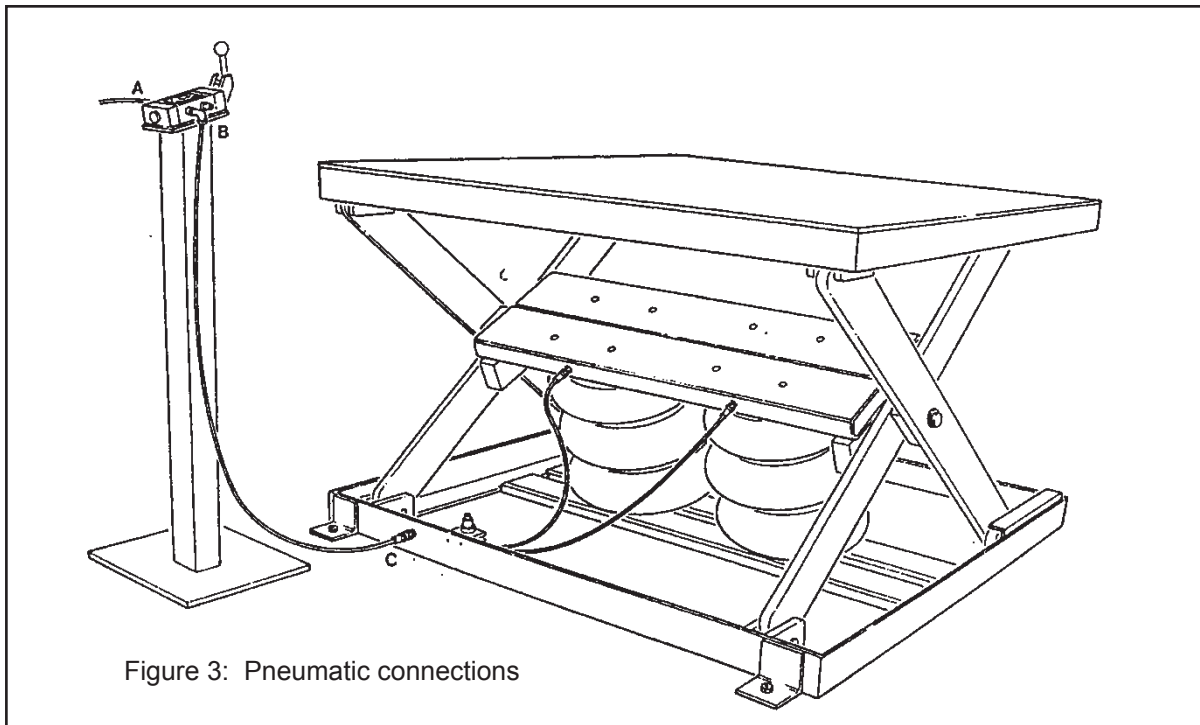

Figure 3: Pneumatic connections
3. The lift is shipped with the control line attached to the control valve (B) and detached from the lift base. Route the control line safely to the base and make the connection (C).
4. Connect the supply line to the open port of the control valve (A).
5. Open the air supply and check the entire circuit for leaks. Secure as needed. See Fig. 3.